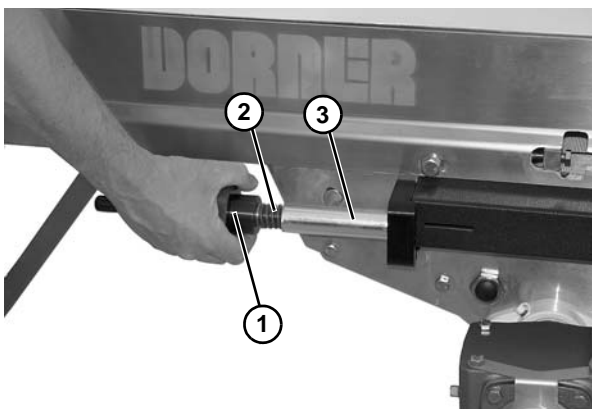
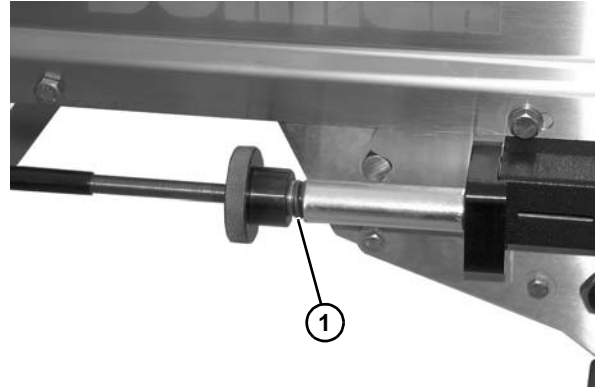

Figure 70
Figure 71
1. Turn knob (**Figure 70, item 1**) on each side of the center drive clockwise until the tensioning spring (**Figure 70, item 2**) is completely behind the spring cover (**Figure 70, item 3**). There should be approximately a 1/8" gap (**Figure 71, item 1**) between knob and spring cover.
2. As normal belt stretch occurs over time, the spring (**Figure 70, item 2**) will be exposed out of the spring cover (**Figure 70, item 3**). When the spring is exposed over 1/2", or if conveyor belt slippage occurs, retighten knob (**Figure 70, item 1**) on each side of the center drive clockwise until tensioning spring is completely behind the spring cover.